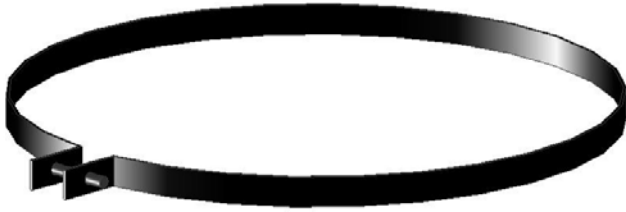

Fig. 15 Clamping band
**PRECAUTION:** When installing a cup packing, be careful not to damage or turn back the lip. This can be avoided by making a clamping band as shown in Fig. 15 from 16-gauge band iron, 1/2" to 1/8" wide. The ends of this band iron with two holes pierced to receive an ordinary stove bolt should be bent so that the circumference is a little less from bend to bend than the circumference of the piston of the pneumatic die cushion unit on which it is to be use.